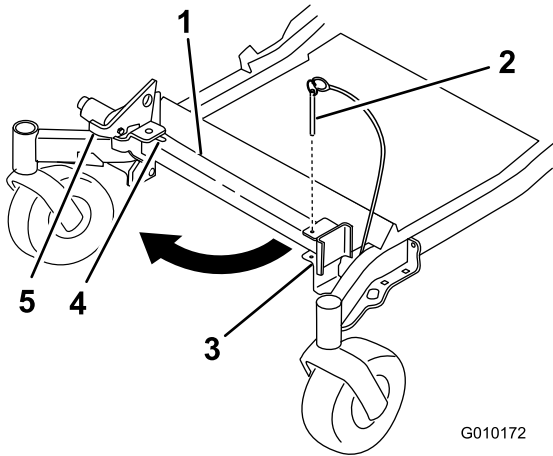
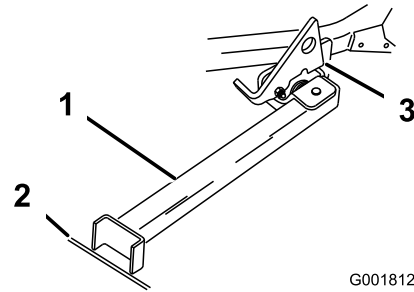

Figure 42
Figure 43
2. Remove the bracket pin (Figure 42).
4. Swing the stand foot out front and slide it toward machine, into the bottom of slot (Figure 42 and Figure 43).
5. Set the foot of the stand on the ground and rest the latch on the pivot tab (Figure 43).
- Note:** For best results, place the foot of the stand into the seams in sidewalks or into the turf (Figure 43).
7. Drive the machine onto the stand. Stop when the latch drops over the tab into the locked position (Figure 43).
5. Return the stand to its rest position (Figure 42).